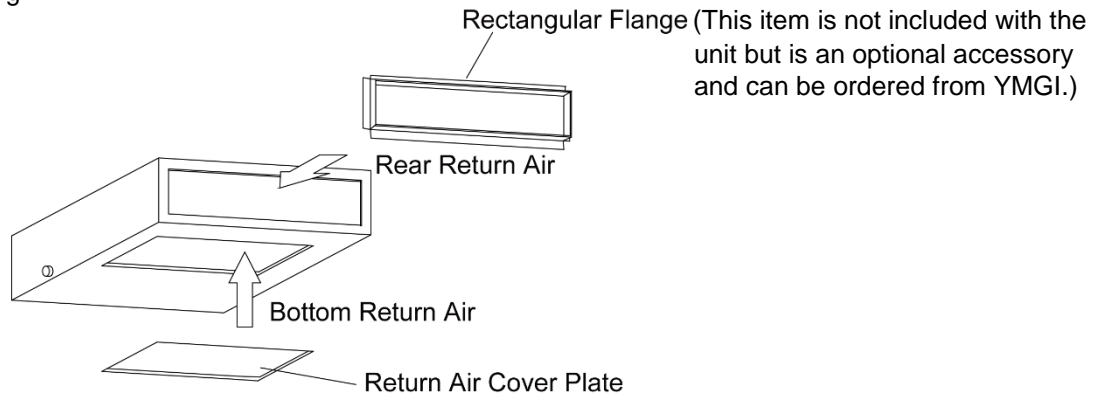

Fig22
- 1) The default installation location of the rectangular flange is at the back and the return air cover plate is at the bottom, as shown in Fig22.